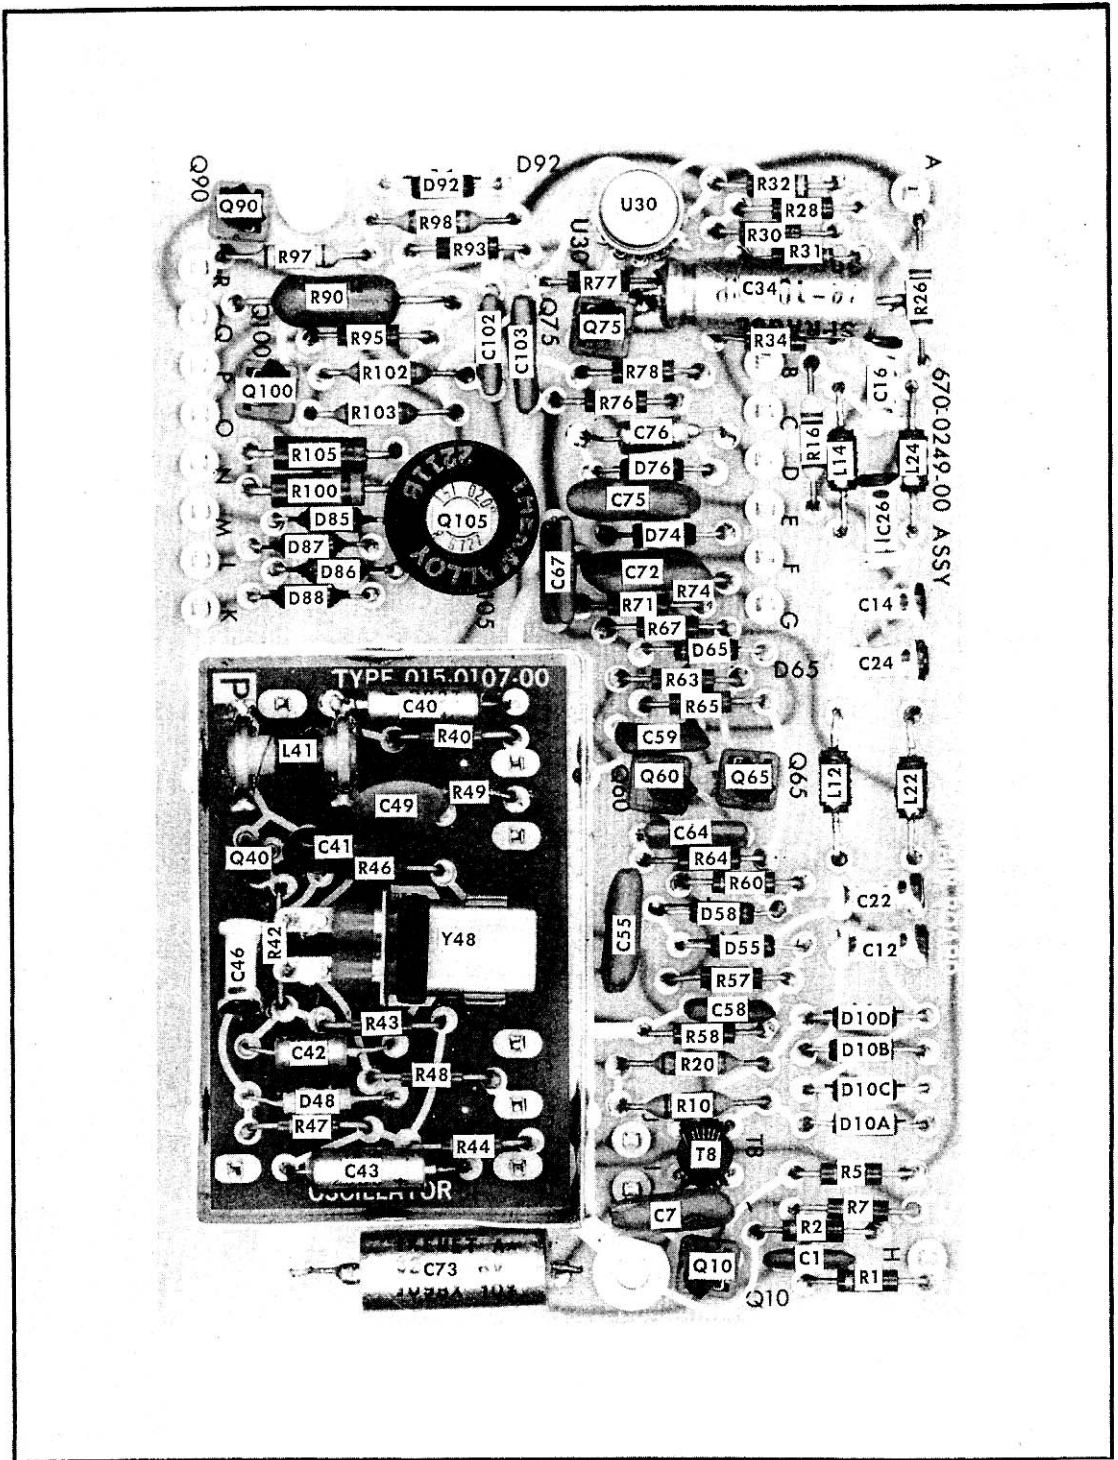

Fig. 4-6. Component location on the circuit boards.
The circuit number of each electrical component is shown on the circuit diagram and the physical location of each is shown in Fig. 4-6.
3. Check circuit voltages and waveforms against those shown on the schematic diagram. Fig. 4-6 is a pictorial diagram showing the location of the electrical components.